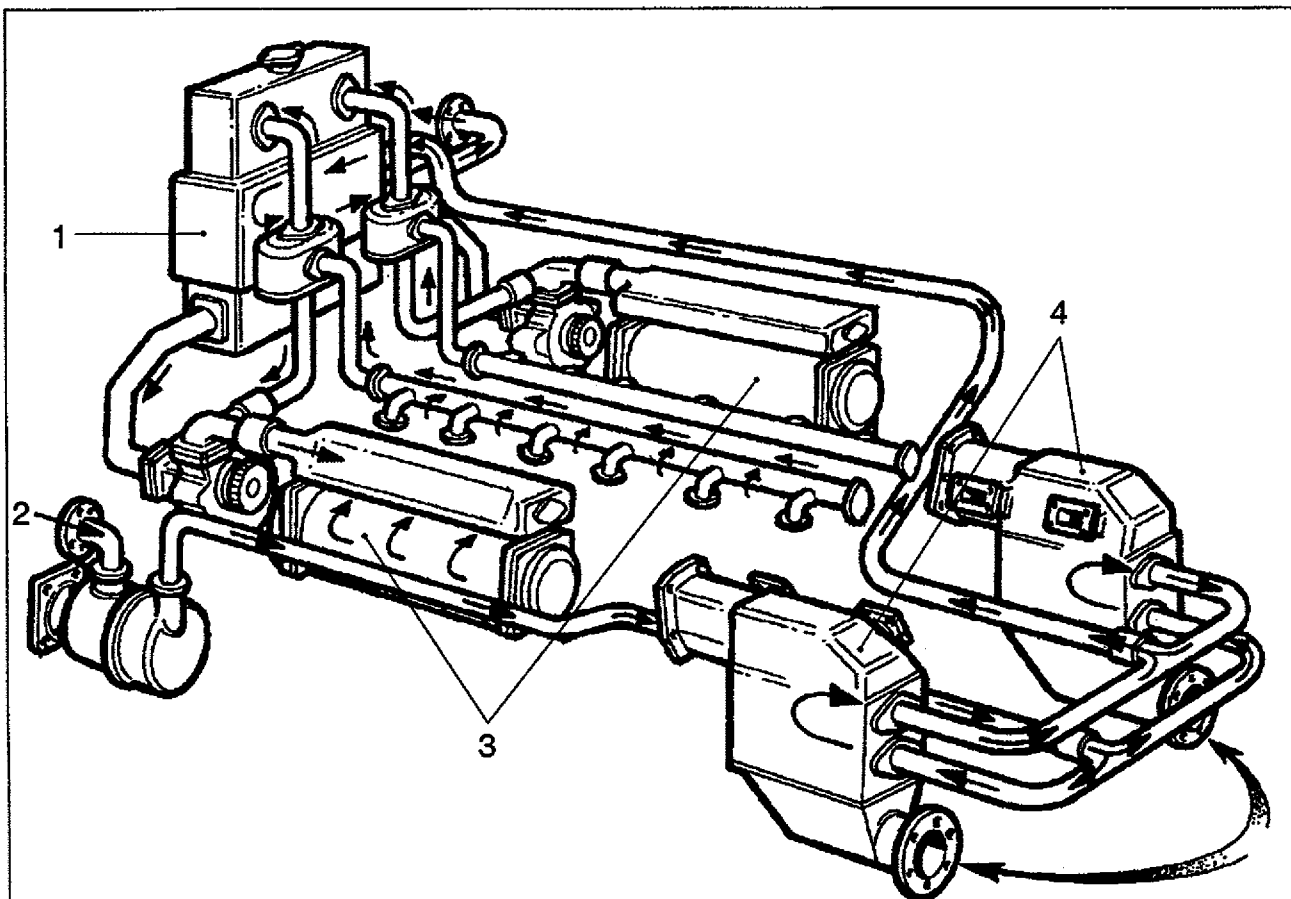

Fig. 2E
From the charge air coolers (4), the raw water flows through the heat exchanger (1) where it is used to cool the hot fresh water from the engine cooling circuit, i.e. engine oil coolers (3) and water jackets, before being piped away (5) (see Fig. 2E Early Heat Exchanger and Oil Cooler Layout (4012TEG) or 5E).